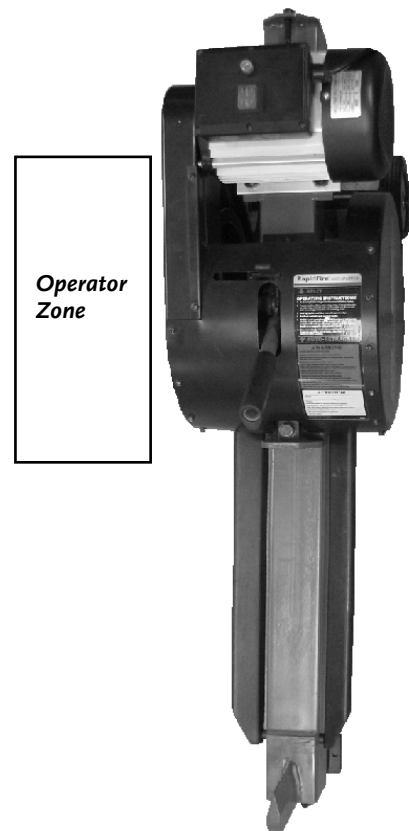

Figure 4
- When operating the Log Splitter, make sure you are standing in the safe operating area (OPERATOR ZONE) as shown in **Figure 4**. You must stay in the safe operating areas at all times when the ram is in motion (whether extending or retracting). Never place any part of your body into a position that causes an unsafe operating condition.